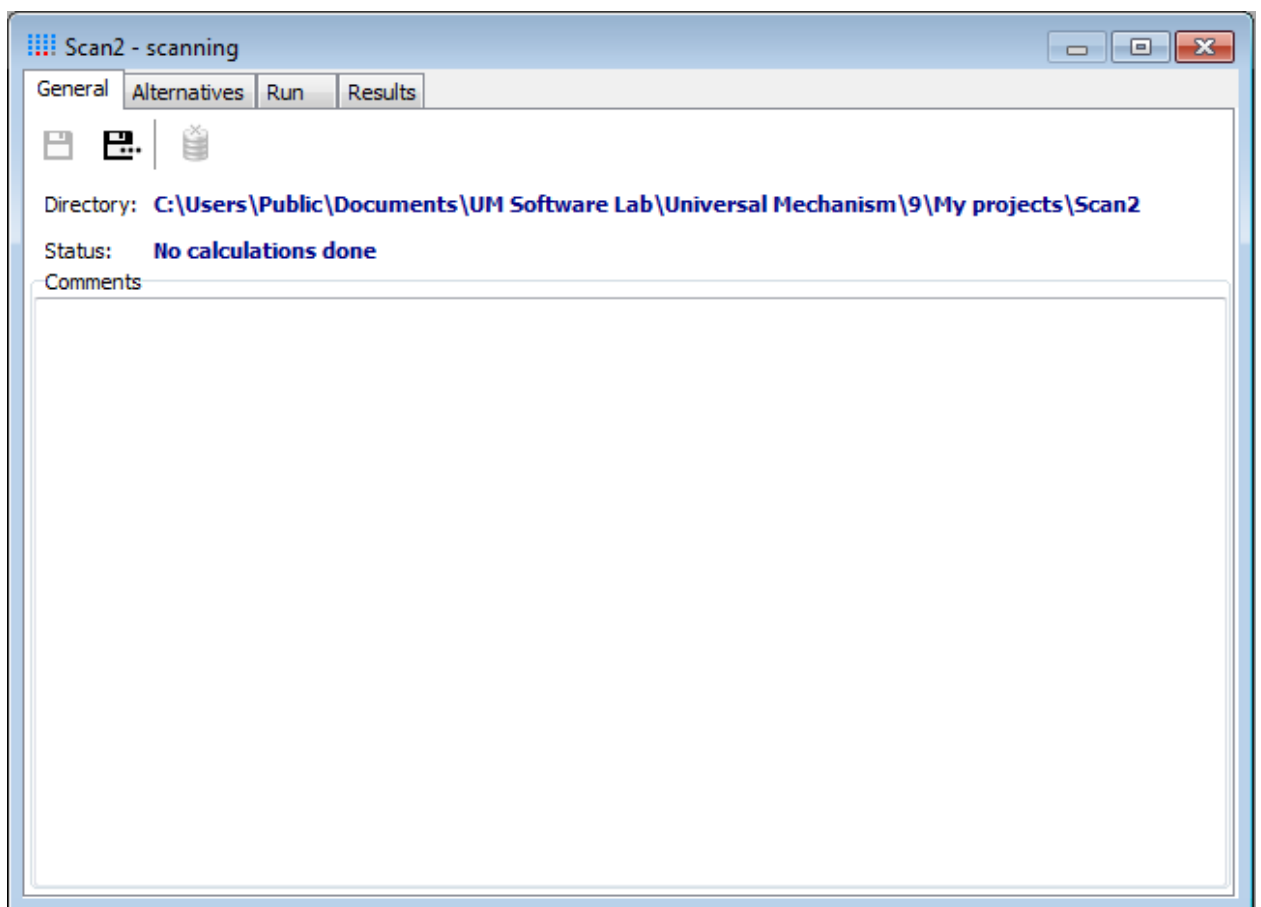

Figure 2.3. Scanning project: in the beginning
4. Click the **Create** button and after that a window for the description of new scanning project will appear, see Figure 2.3.